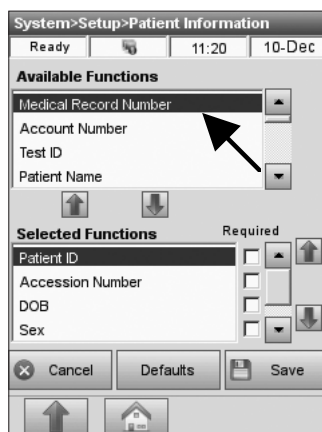

Fig. 3-16 Patient Information
In the **<Patient Information>** screen, you can customize the list of patient information (Fig. 3-16).
1. To add patient entry options to your list, select the desired option in the **<Available Functions>** field in the top half of the screen. (Fig. 3-16). Press the blue **<Down>** arrow to move this option to your list in the **<Selected Functions>** field on the bottom.